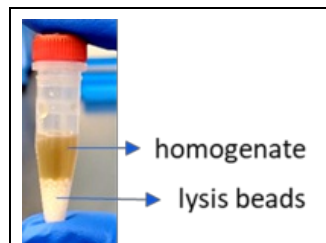

Figure 1: A sample after complete homogenization without any tissue chunks.
5. Remove the tubes and visually inspect the samples to confirm complete homogenization (Figure 1). **Note:** If unhomogenized tissue is seen, homogenize for additional 30 seconds.